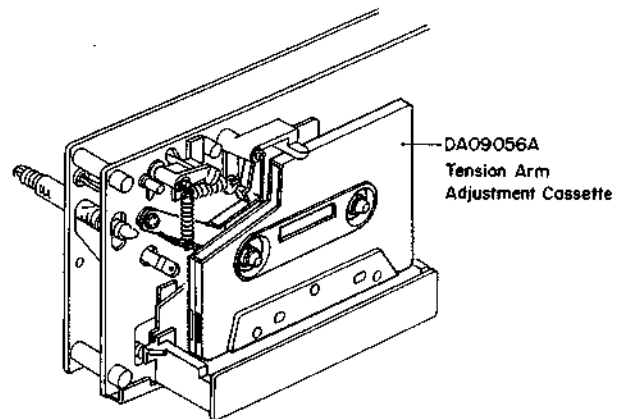
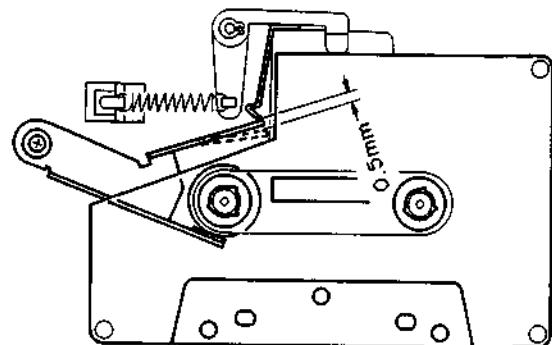

Fig. 4.13
Fig. 4.14
Refer to Figs. 4.13 - 4.16.
- (1) Load the Tension Arm Adjustment Cassette (DA 09056A) referring to Fig. 4.13.
- (2) Set the Cassette Deck in play mode.
- (3) Bend the Back Tension Arm with pliers so that the gap between the Cassette Holding Spring assembled with the Head Base Ass'y and the Back Tension Arm becomes 0.5 mm as shown in Fig. 4.14. Do not bend the pointed end of the Back Tension Arm.